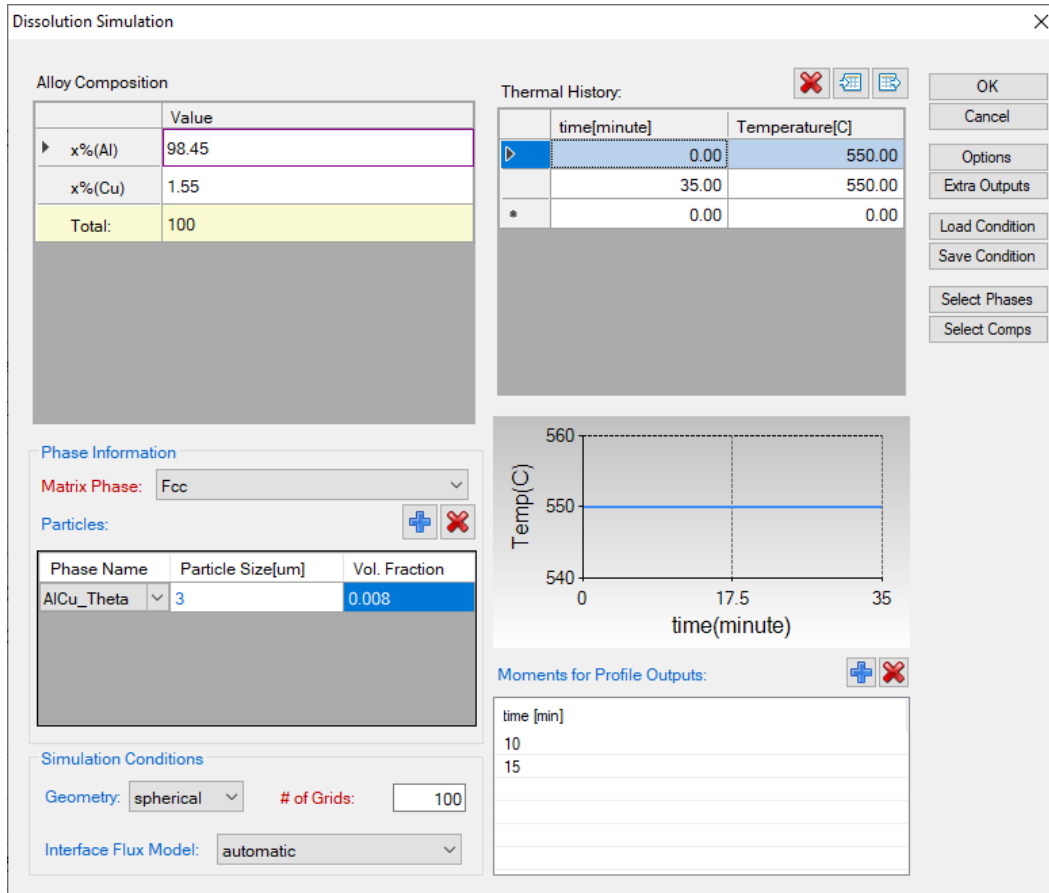

Figure 4.12.1: Settings applied in this example.
- By default, dissolution simulation gives time-evolution of particle size as output. In order to display composition profile at desired moments, click  next to the “Moments for Profile Outputs” and input a time value. As shown in Figure 4.12.1, profiles at 10 minutes and 15 minutes will be outputted. Click OK to start calculation;